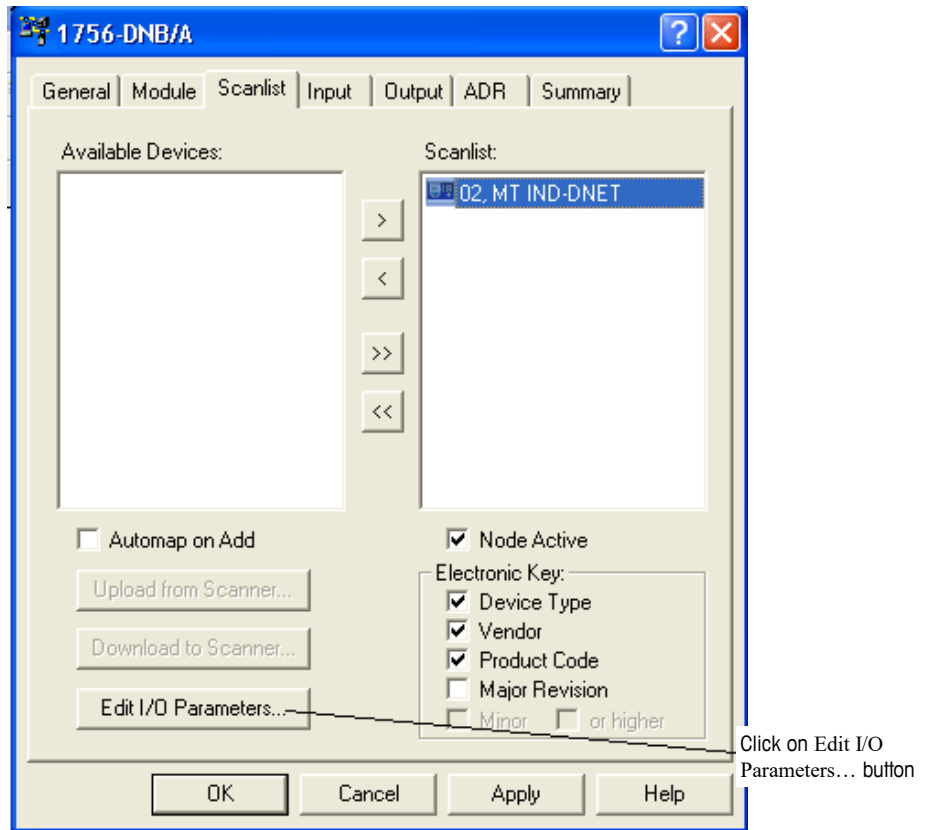

Figure 4-24: IND Terminal Added to Scanlist
8. Highlight the IND Terminal (MT IND-DNET) and left-click to add it to the Scanlist. Once the IND Terminal is added, it will appear in the right pane (Figure 4-24). Click OK.